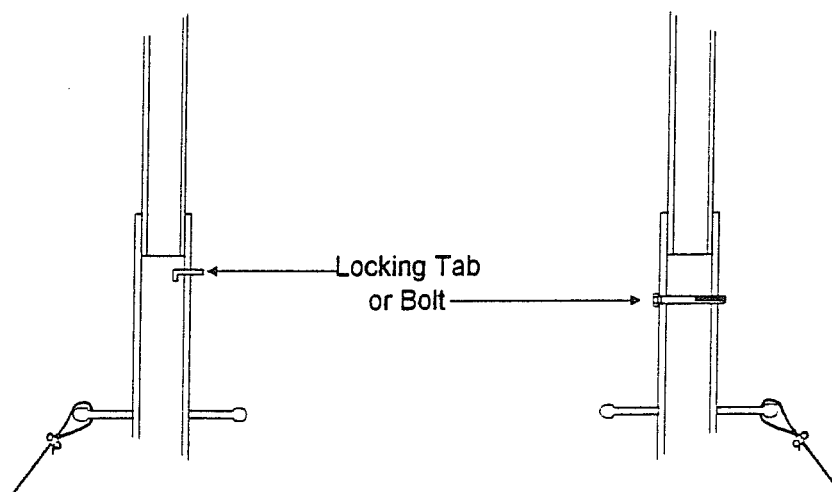

Figure 4-9
14. Insert the locking tab or bolt provided into the hole and allow the mast to drop down on to the locking tab. See Figure 4-9.